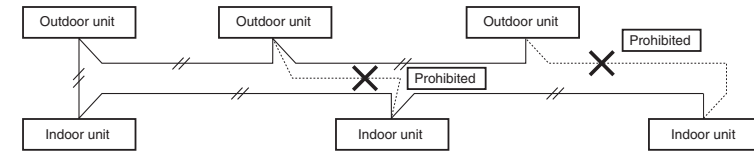

Fig. 5-1
- Do not install the inter-unit control wiring in a way that forms a loop. (Fig. 5-1)